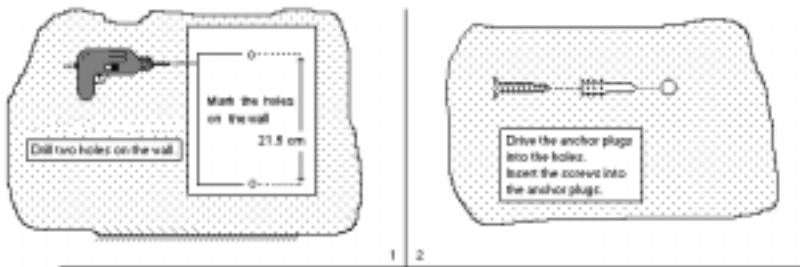

Figure B-1
- 1) Place the template on the wall (see Figure B-1).
- 2) Drill 2 holes at the points marked on the template (see Figure B-1).
- 3) Drive the anchor plugs into the holes (see Figure B-1).
- 4) Insert the screws into the anchor plugs and fix the screws (see Figure B-1).